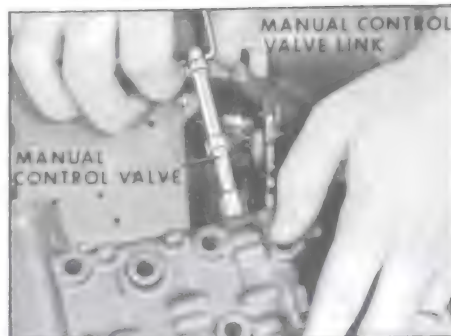

Figure 5-342
3. Install manual control valve and link into valve body assembly. See Figure 5-342.